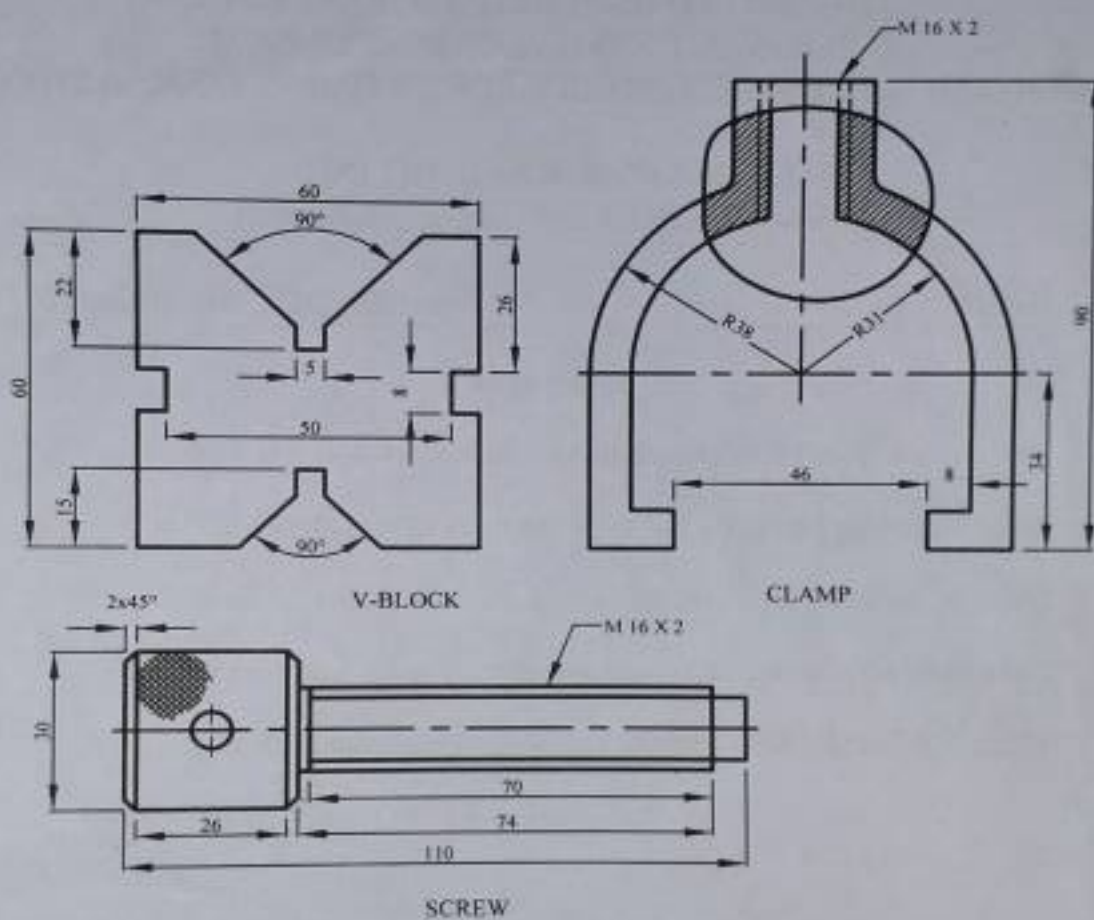

Figure 1
1. Figure 1 shows the details of a V-block, a clamp and a screw. Assemble the parts and draw a partial sectional front elevation of the given area. (40 marks)